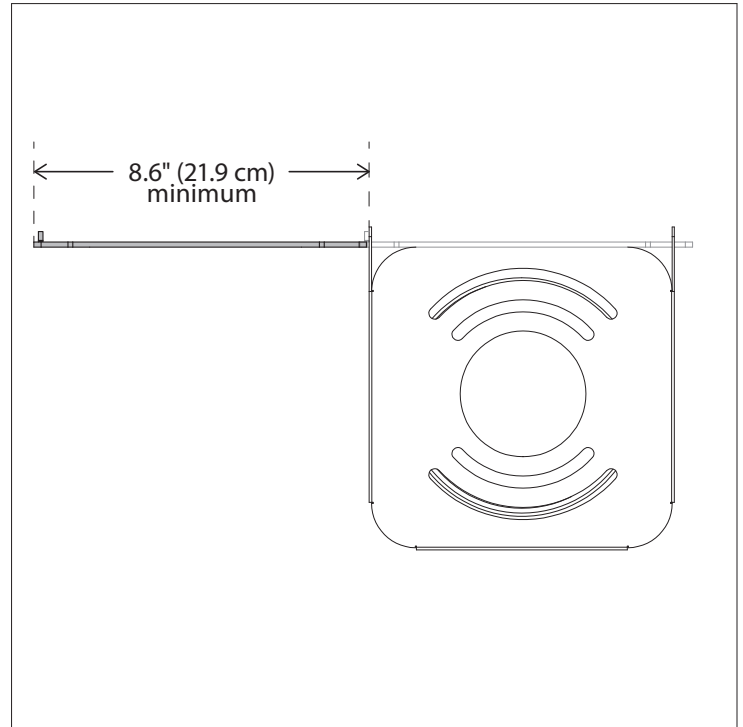

Figure 9
1. Choose a mounting location for the MacCuff Studio bracket. Be sure to select a position with at least 8.6 inches of clearance on the side of the bracket where the locking bar is inserted (Figure 9).